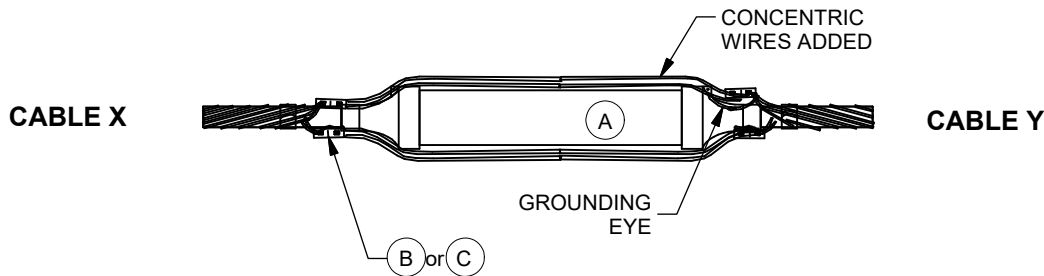

Figure 4
12. Connect the concentric neutral wires back over the cable and splice body as follows: for the 4/0 cable with 11 #14 AWG concentric wires (3 ph) make two bundles of wires (one with five wires and one with six wires) and place them into the #4 copper sleeves. Crimp the sleeves. For the 4/0 cable with twenty #12 AWG concentric wires, (1 ph), make three bundles of wires (two with seven wires and one with six wires), and place them into the #2 copper sleeves. Crimp the sleeves. It may be necessary to add concentric wires in order to jumper across the splice. See Figure 4. Make sure that the neutral wires are against the splice body. Connect one concentric wire on each side to its respective grounding eye and return it back to the wire bundle.